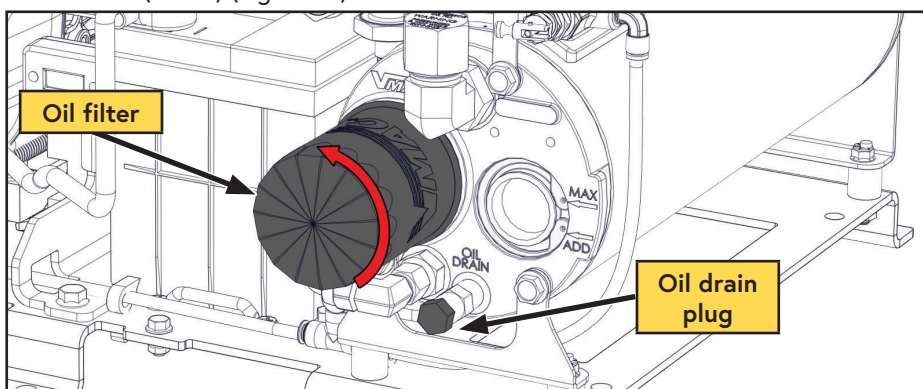

Figure 33 — Compressor oil filter
- ☐ Remove the oil drain plug and drain the oil into a container with a capacity of at least 4 L (1 USG) (Figure 33).
- ☐ Remove the oil filter (Figure 33 on page 53).